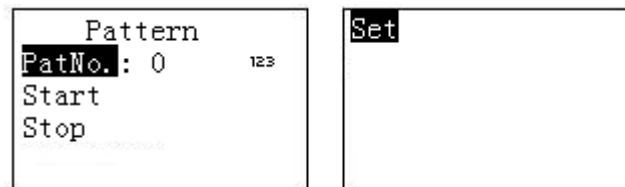

Figure 4-9
- a) On the keyboard click **【PATTERN】**, the interface is shown as below. See Figure 4-9.